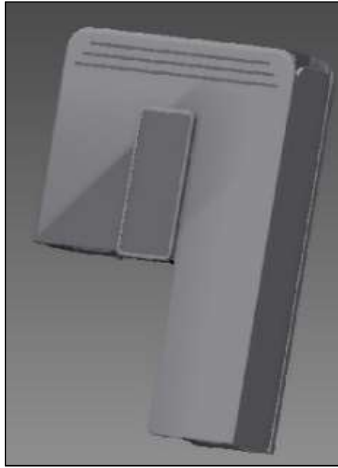

Figure 1 : Power Node Radio Part
- A power node Radio Pack refer to Figure 1